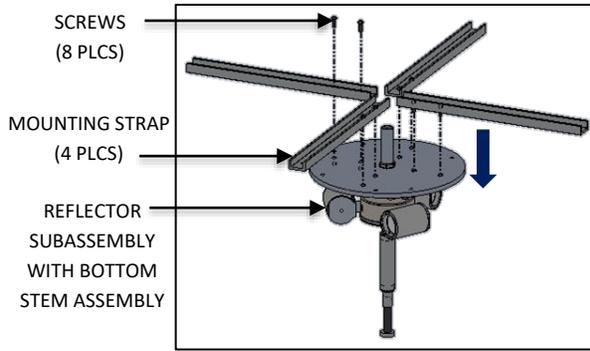

FIG. 13 – MOUNTING STRAPS INSTALLATION
3. Assemble MOUNTING STRAPS to the REFLECTOR SUBASSEMBLY by SCREWS provided as shown in FIG. 13.